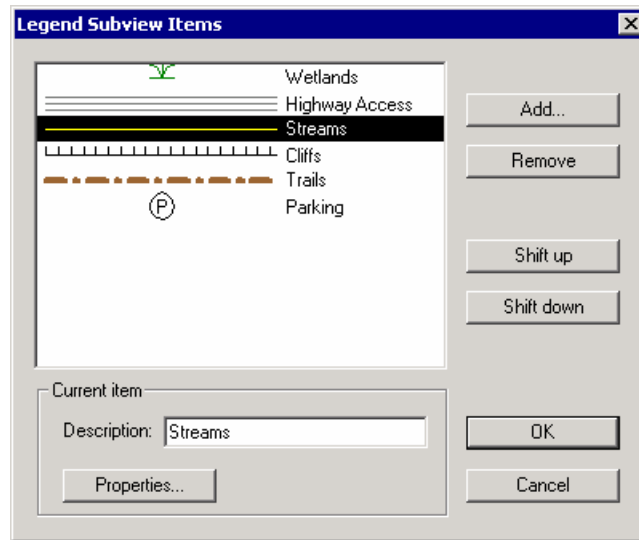

Figure 3.32: Legend Sub-view Options Dialog
11. To modify the legend entries, press the Items button. Delete all line-types that do not appear in Figure 3.32. Change the descriptions to match. Do this by clicking on the desired list item and then changing the Description in the Current item area. Press OK to close dialog boxes.